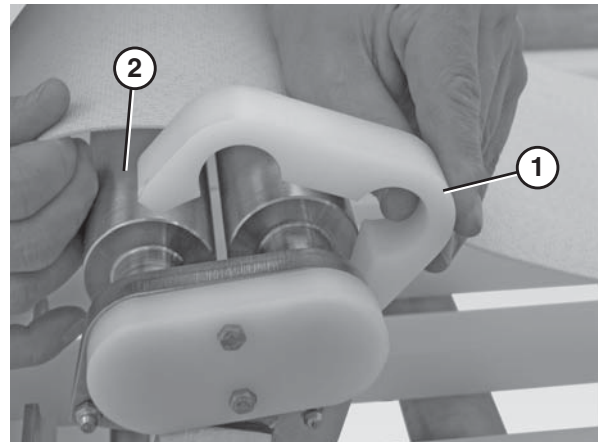

Figure 75
1. Slide the pinch guard blocks (Figure 75, item 1) off the nose bar spindles (Figure 75, item 2).